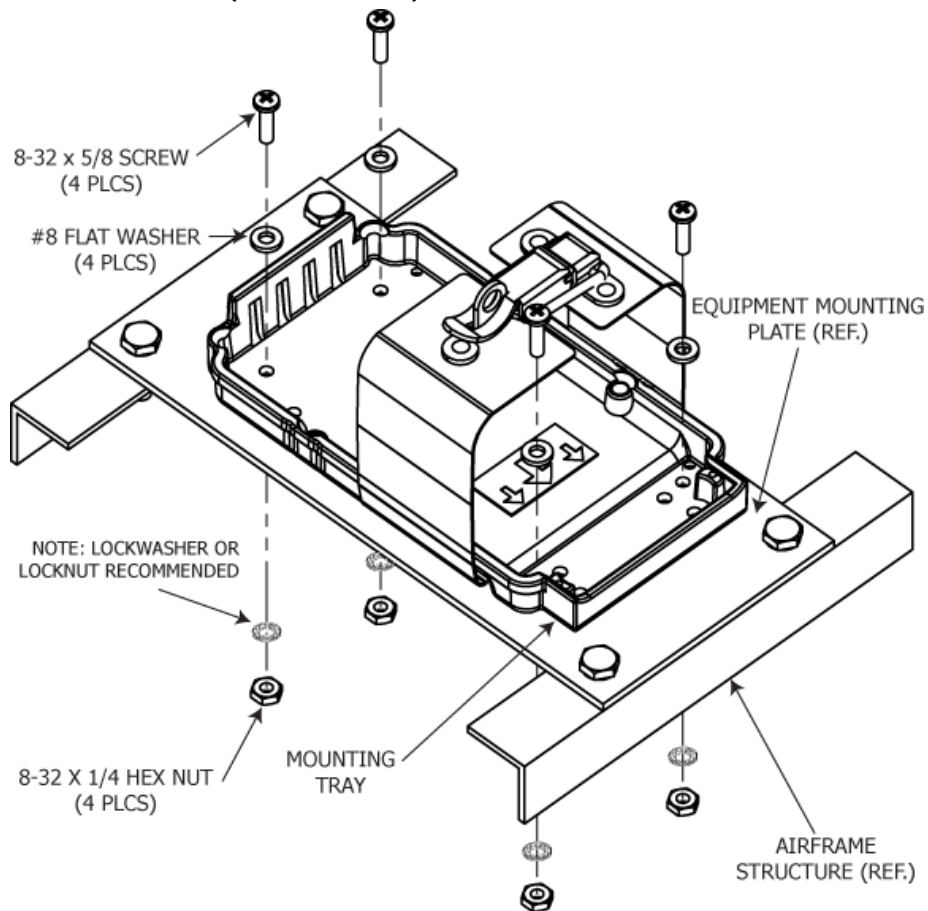

Figure 14 Typical Mounting Tray Installation
- 1) See Figure 14 Typical Mounting Tray Installation.
- 5) Install the mounting tray as shown in Figure 14 (installation kit: 455-7423).